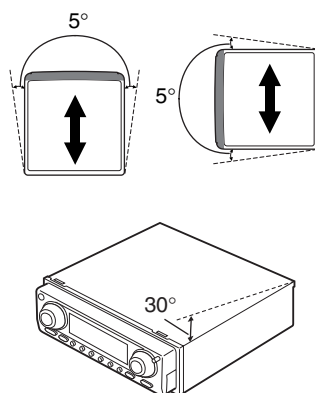

Fig. 5
- Install the main unit on a surface within  $+30$  degrees to  $0$  degrees tolerance (within five degrees to the left or right of your vehicle's direction of travel). A surface tilted more than this would increase the errors in location display. (Fig. 5)